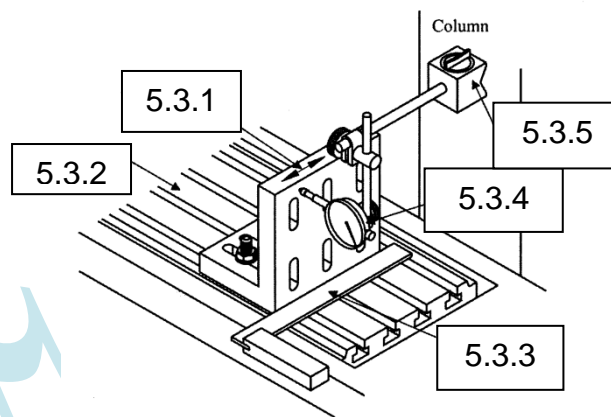

FIGURE 4
5.3 FIGURE 4 below shows an angle plate that is being set so that it runs parallel or perpendicular to the machine's axis. Identify the components 5.3.1–5.3.5 from the sketch below. Write only the answer next to the question number (5.3.1–5.3.5) in the ANSWER BOOK.